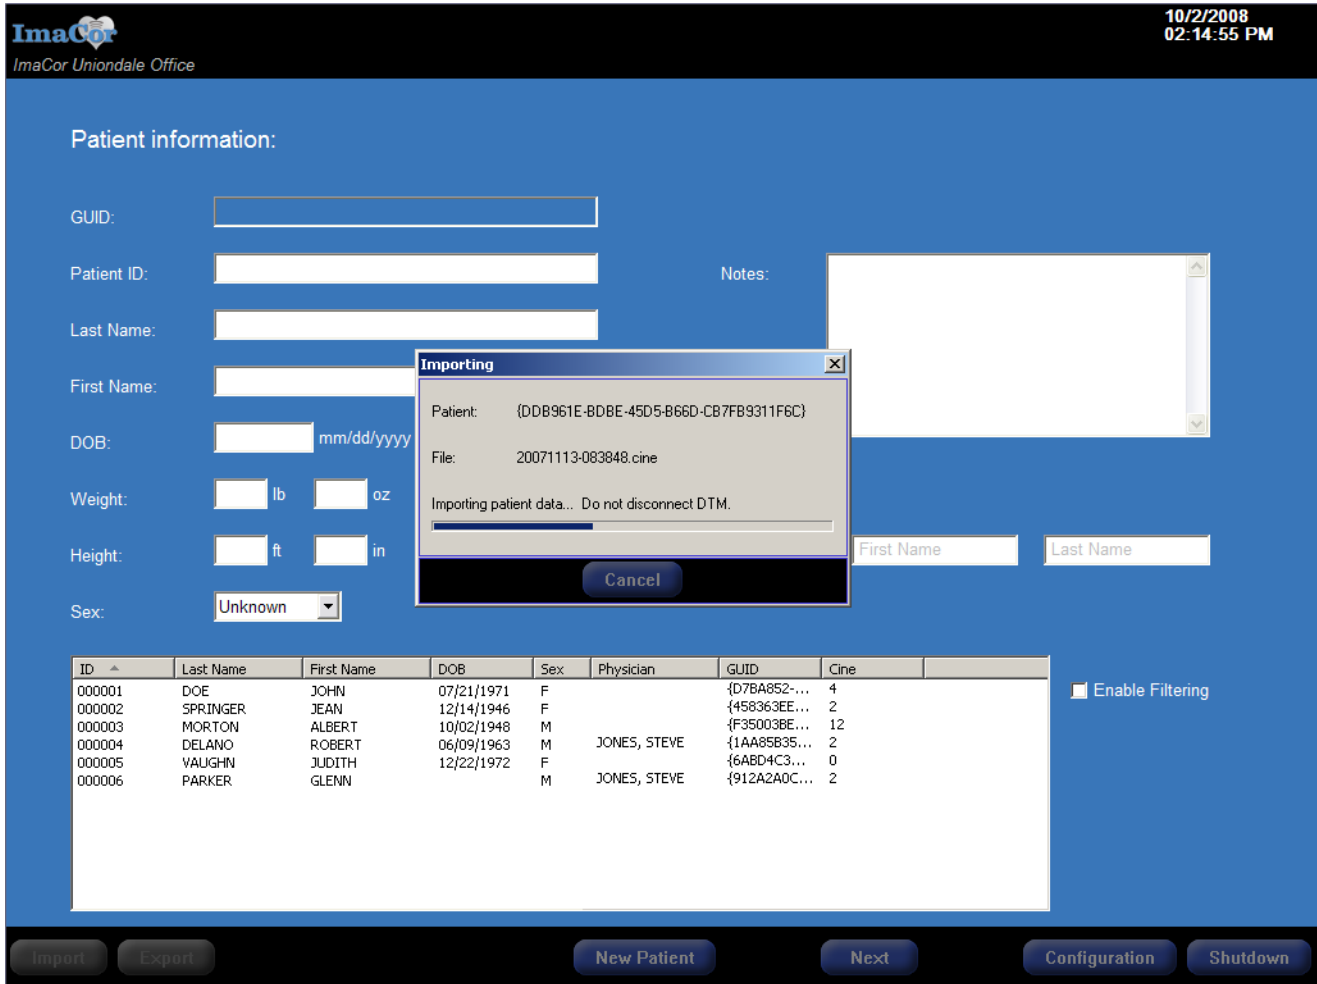

Fig. 23 Importing patient data progress bar
- 3 Click the Import button. Do not disconnect the DTM while the data is being imported. Figure 23 shows the Importing progress bar.